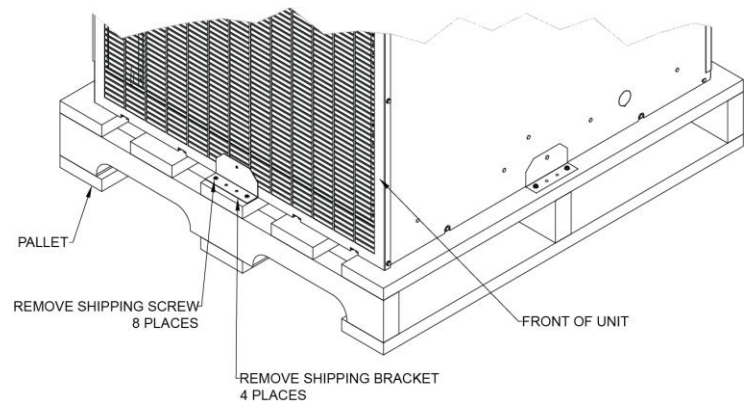
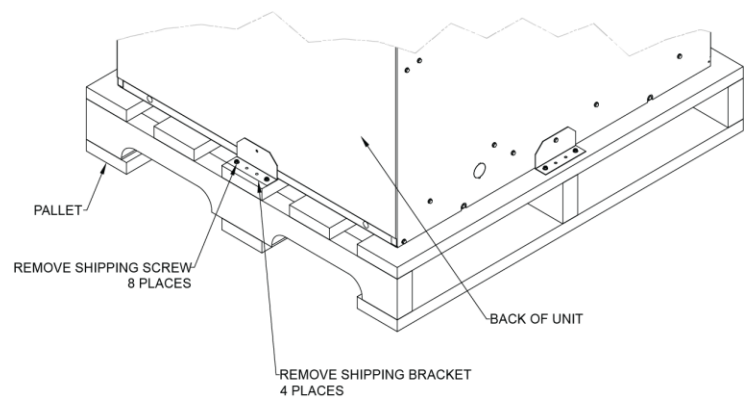

FIGURE 3 - Standard Packaging with Brackets - Front View
FIGURE 4 – Standard Packaging with Brackets - Back View
- 4) Ensure that the shipping brackets and screws are removed from the chassis section. Refer to **FIGURE 3- Standard Packaging with Brackets – Front View** & **FIGURE 4 – Standard Packaging with Brackets – Back View** for more information.
- a. Check that the gas manifold is firmly in place on the burner box and secured with the provided screws (4).